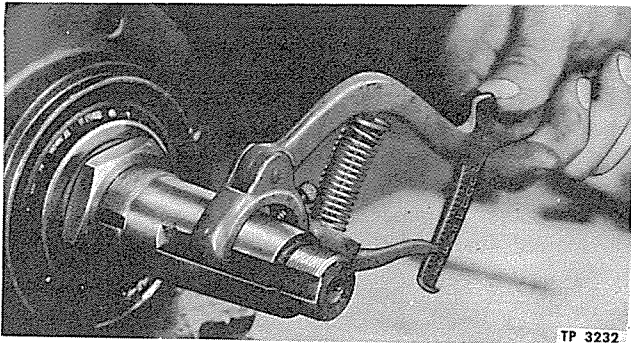

Figure 5—Typical Pinion Bearing Adjustment Test
correct spacer is used. Bearing adjustment may be checked with torque wrench (fig. 5) and reading obtained, should be 6 to 8 inch pounds torque. If torque wrench reading exceeds limits, install thicker spacer (28). When reading is below limits, install thinner spacer (28).
6. Install bearing (22) on inner end of drive pinion (25) and lock in place with new retainer (23) and bolt (24).
7. After bearing adjustment is completed; remove nut, washer and pipe or tubing from drive pinion (25); then install oil seal (32) in pinion cage (29).
8. Make certain that splines on pinion (25) and in flange (33) are cleaned; then install flange (33) and dust slinger on drive pinion (25). Attach flange with nut (34). Tighten nut (34) with torque wrench 700 to 900 foot pounds torque. Align cotter pin hole in drive pinion (25) with slots in nut (34) and install new cotter pin full size of hole.
9. Dip end of pinion with roller bearing (22) in differential lubricant. Install cage assembly (29) in differential carrier (40) using same number and thickness of shims (39) between cage flange and carrier as were removed. Be certain oil holes in cage assembly (29) and shims (39), index with those in carrier (40) to assure proper lubrication. Install nuts (37), and new lock washers (38) on studs (36). Tighten nuts firmly.